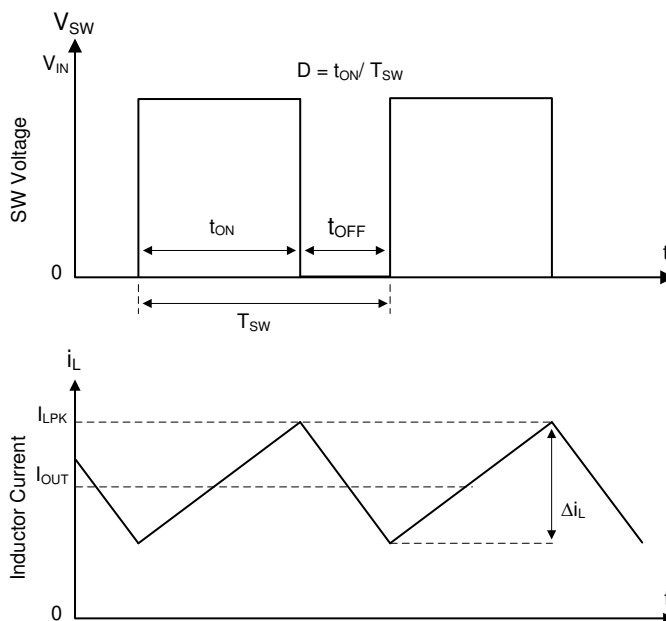

Figure 6-1. SW Node and Inductor Current Waveforms in Continuous Conduction Mode (CCM)
The following operation description of the TPSM84538 refers to the functional block diagram and to the waveforms in Figure 6-1. The TPSM84538 is a synchronous buck converter with integrated high-side (HS) and low-side (LS) MOSFETs (synchronous rectifier). The TPSM84538 supplies a regulated output voltage by turning on the HS and LS NMOS switches with controlled duty cycle. During high-side switch on time, the SW pin voltage swings up to approximately V_{IN} , and the inductor current, i_L , increases with linear slope $(V_{IN} - V_{OUT}) / L$. When the HS switch is turned off by the control logic, the LS switch is turned on after an anti-shoot-through dead time. Inductor current discharges through the low-side switch with a slope of $-V_{OUT} / L$. The control parameter of a buck converter is defined as Duty Cycle $D = t_{ON} / t_{SW}$, where t_{ON} is the high-side switch on time and t_{SW} is the switching period. The converter control loop maintains a constant output voltage by adjusting the duty cycle D . In an ideal buck converter where losses are ignored, D is proportional to the output voltage and inversely proportional to the input voltage: $D = V_{OUT} / V_{IN}$.